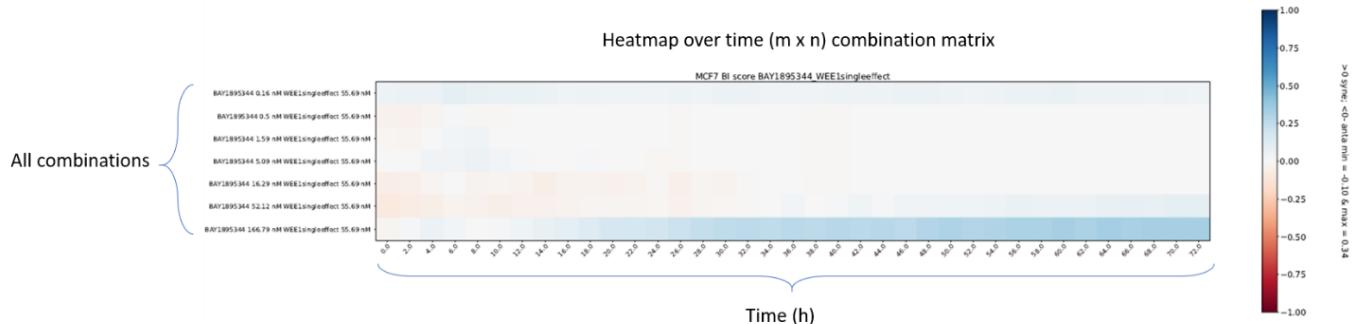

Figure 34: Heatmap over time for (m x n) matrix combination.
- ( $m \times n$ ) matrix combination, see Figure 34.